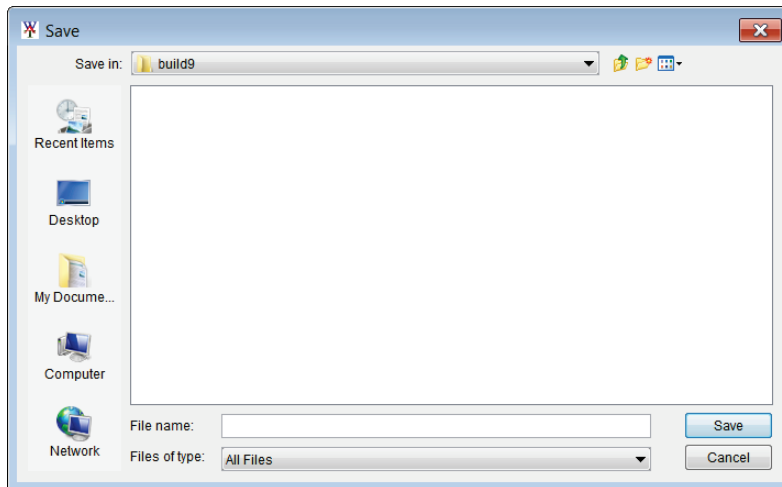

Figure F.14 Save Browser
2. A **Save** browser will open (Figure F.14). Enter a name in the **File name** box. Click **OK**, the **Save** browser will close, and a shapefile of the displayed stream alignment will be saved in the selected location.